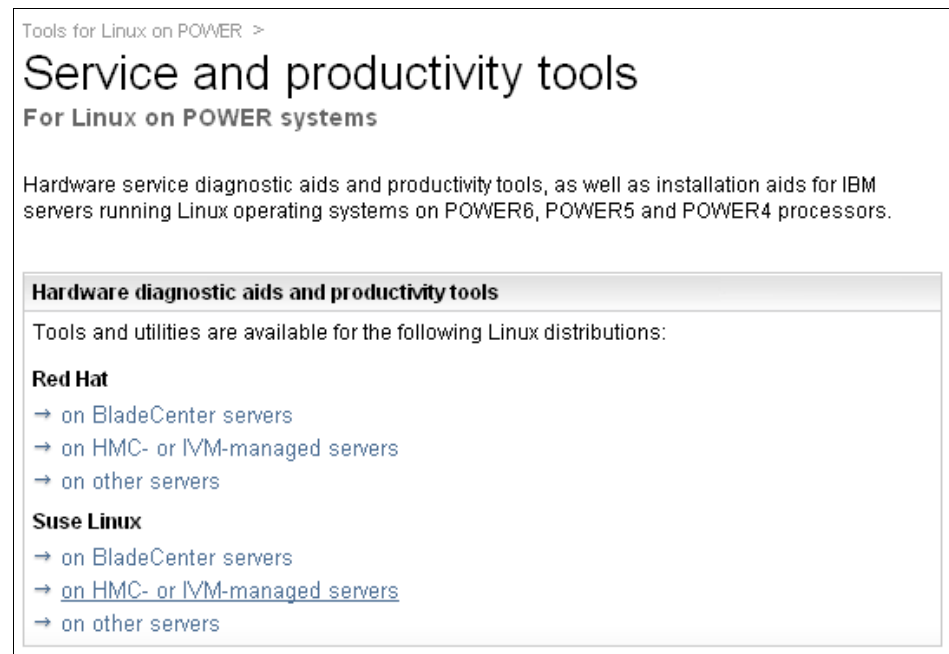

Figure D-2 Select "on BladeCenter servers"
2. On this Web site, click the **BladeCenter servers** link under the Red Hat or SuSE Linux distribution headings, as shown in Figure D-2.